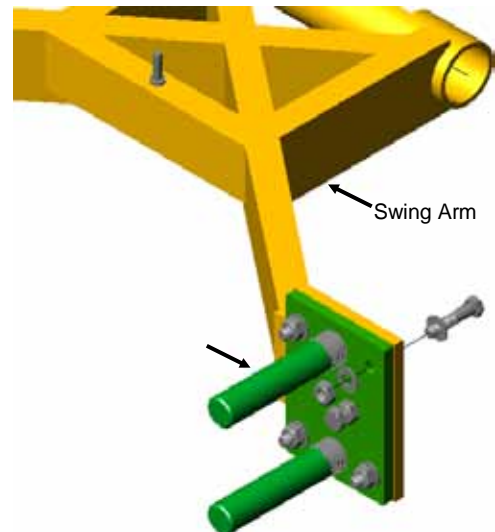

Figure 26
- **1993 to 1996 Models-** four 3/8"-24 x 1 1/2" L Hex Bolts, eight 3/8" SAE Flat Washers and four 3/8"-24 NyLoc nuts. Figure 26